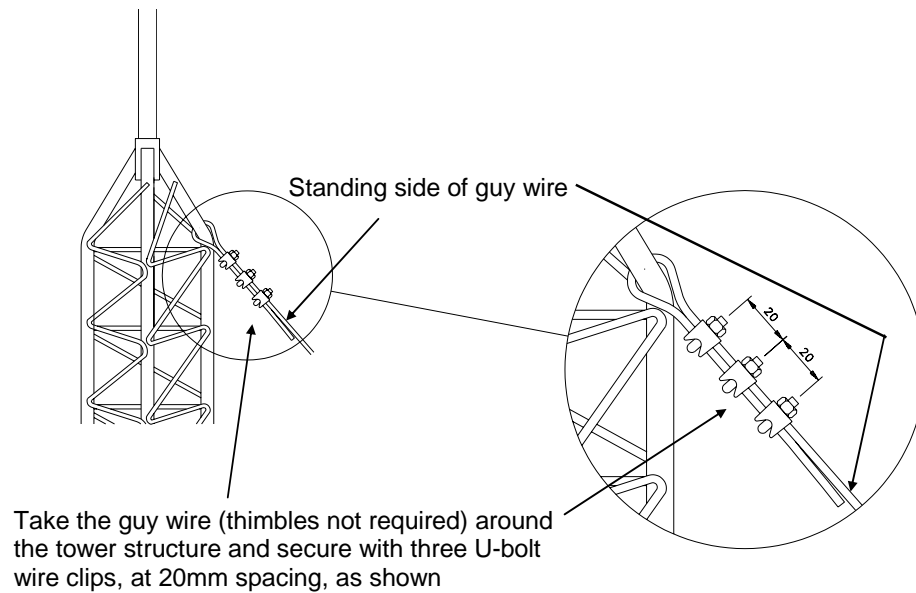
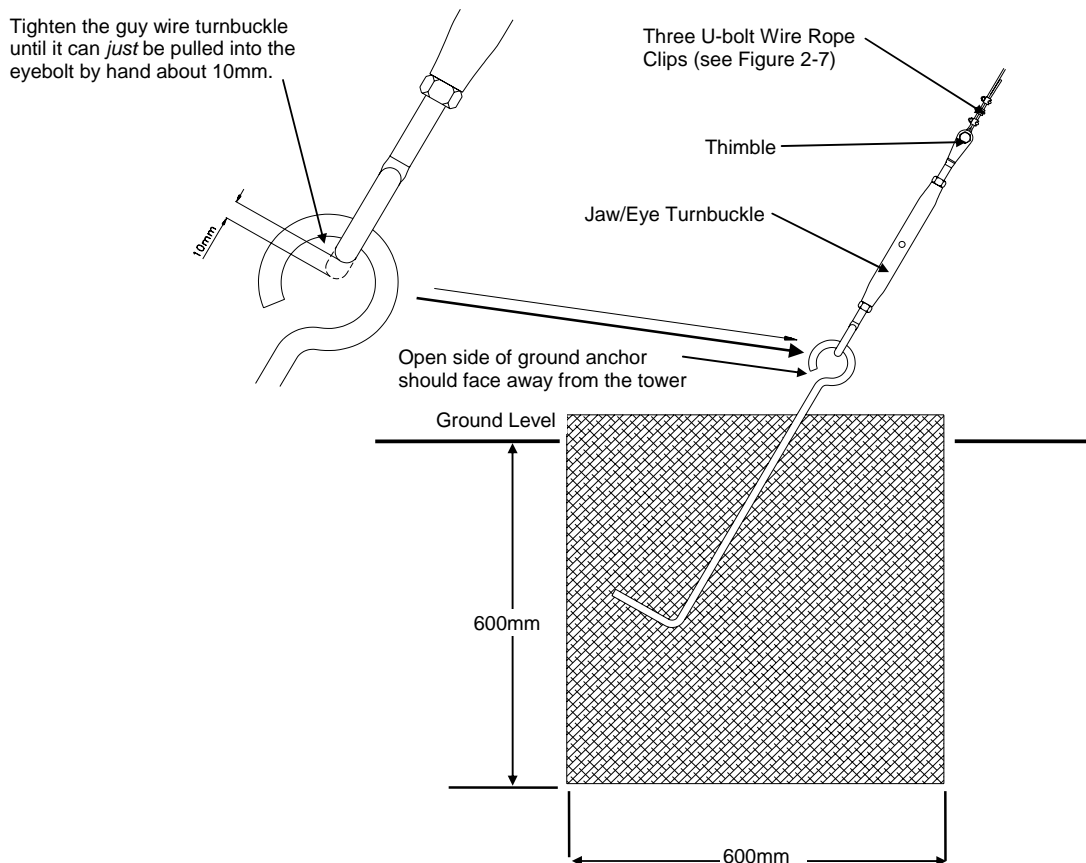

Figure 2-7 Installation of Guy Wires to Tower
Figure 2-9 Installation of the Guy Wires to the Ground Anchors
2. Attach the guy wires to the top tower section, taking each guy wire in turn around the structure and fitting it securely using *three* U-bolts for each wire, spaced as shown in Figure 2-7, below. Note the position of the ‘standing’ side of the guy wire.
All U-bolt Rope Clips must be fitted as shown in Figure 2-7, with three U-bolts at approximately 20mm centres. The U-bolts should be on the short side of the guy wire and the nuts on the standing side.
Ensure that you have all parts of the guying kit to hand. Unscrew the jaw and eye bolts from each turnbuckle until about 25mm of thread extends through the turnbuckle body. Attach the jaw end of the turnbuckles to the anchors, and, while holding the tower vertical, attach the guy wires to the eye end of the turnbuckles using one thimble and three U-bolts per guy wire as shown in Figure 2-7. The U-bolts should be fitted as shown, at a spacing of 20mm, with the nuts on the 'live' side of the guy wire. Tighten the turnbuckles until it is *just* possible to pull the shackle by hand approximately 10mm into the eye bolt, as shown in Figure 2-9.